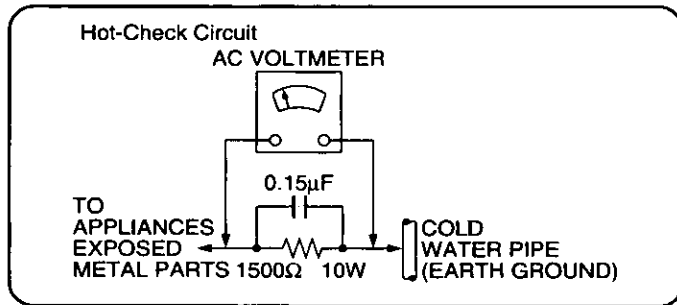

Figure 1
## LEAKAGE CURRENT HOT CHECK (See Figure 1.)
2. Connect a  $1.5k\Omega$ ,  $10\text{W}$  resistor, in parallel with a  $0.15\mu\text{F}$  capacitor, between each exposed metallic part on the set and a good earth ground such as a water pipe, as shown in Figure 1.